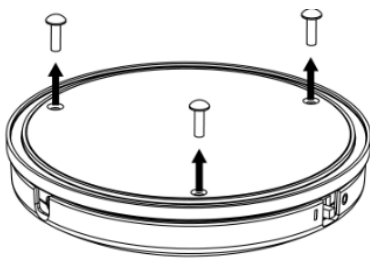

Fig 5-1
1. Unscrew 3 screws on the back of the round foot switch (Fig.5-1).